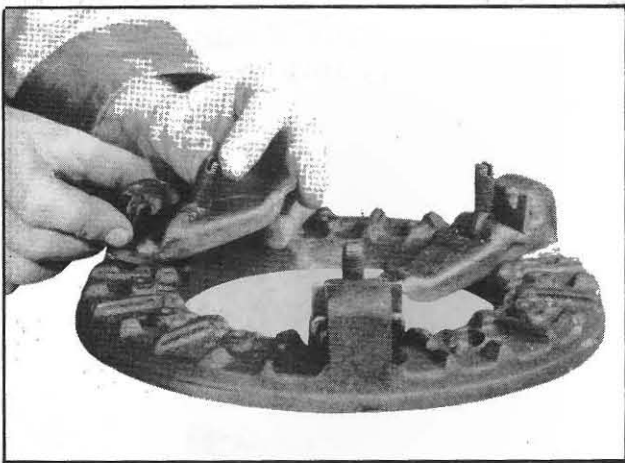

Fig. 127
3. To remove the levers, grasp the lever and eyebolt between thumb and fingers so that the inner end of the lever and the upper end of the eyebolt are close together. Keeping the eyebolt pin seated in its socket in the lever and tilt strut back until it clears the end of the lever as shown in Fig. 127. Lift the lever and eyebolt off the pressure plate.
lug slots, drop it slightly and tilt the lower edge back. Insert the unthreaded end of the eyebolt into the hole in the pressure plate with the short end of the lever under the hook of the pressure plate lug, see Fig.127. Slide the strut upward in the slots of the lug, lifting it over the ridge on the short end of the lever and drop it into the groove in the lever.